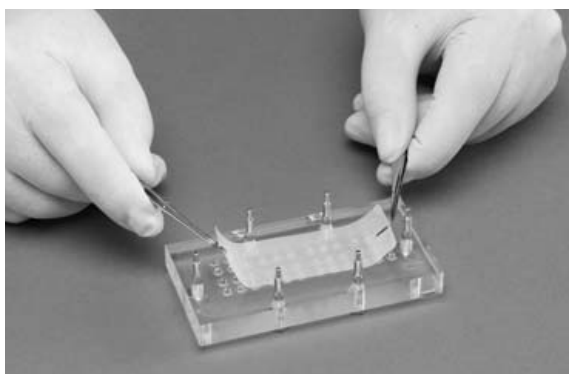
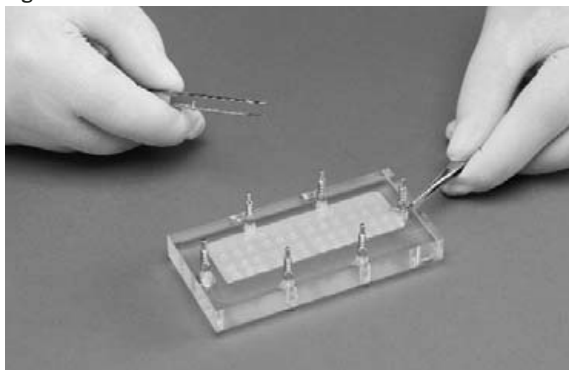

Figure 1
Figure 2
3. Cut 1mm off the corner of a filter membrane and orient it with the cut corner at the upper left. Lift the filter by the ends with two forceps, hold it evenly over the filled wells, and lower it onto them, allowing the middle portion of the filter to make contact first (*see Fig. 1*). The filter position can be adjusted at this point, if necessary, but note that too much movement will cause contamination between wells (*see Fig. 2*).